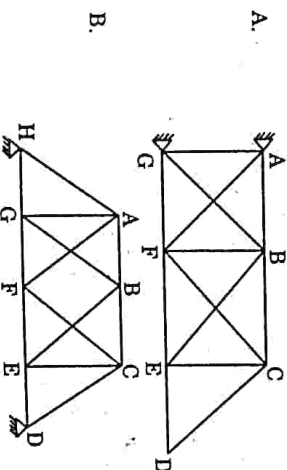

Fig. 2.
d. Find the external and internal degree of redundancy of the structures as shown in Fig. 2.